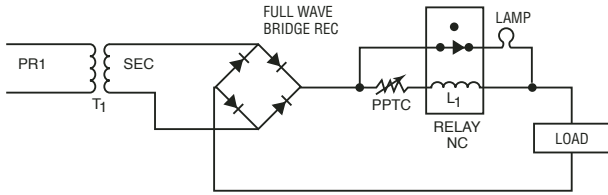

Figure 1
1. In a situation where there is a need for an over-voltage signal with continued work of the load, a MULTIFUSE PPTC is used in series with the load. A circuit consisting of a PPTC, normally closed relay and a lamp such as SK3 or SG40 (similar to an 1156 automotive light bulb) in parallel is set in series with the load. (See Figure 1.) During normal operating parameters, the current will take the path of least resistance through the PPTC. On power up, the coil of the relay will energize and open the contacts, stopping all current flow to the alarm system. As the current rises and the I^2R increases, current will cease to flow through the PPTC and the relay coil. This will cause a state change in the normally closed contactors enabling the alarm system and allowing current to continue through the alarm circuit. In